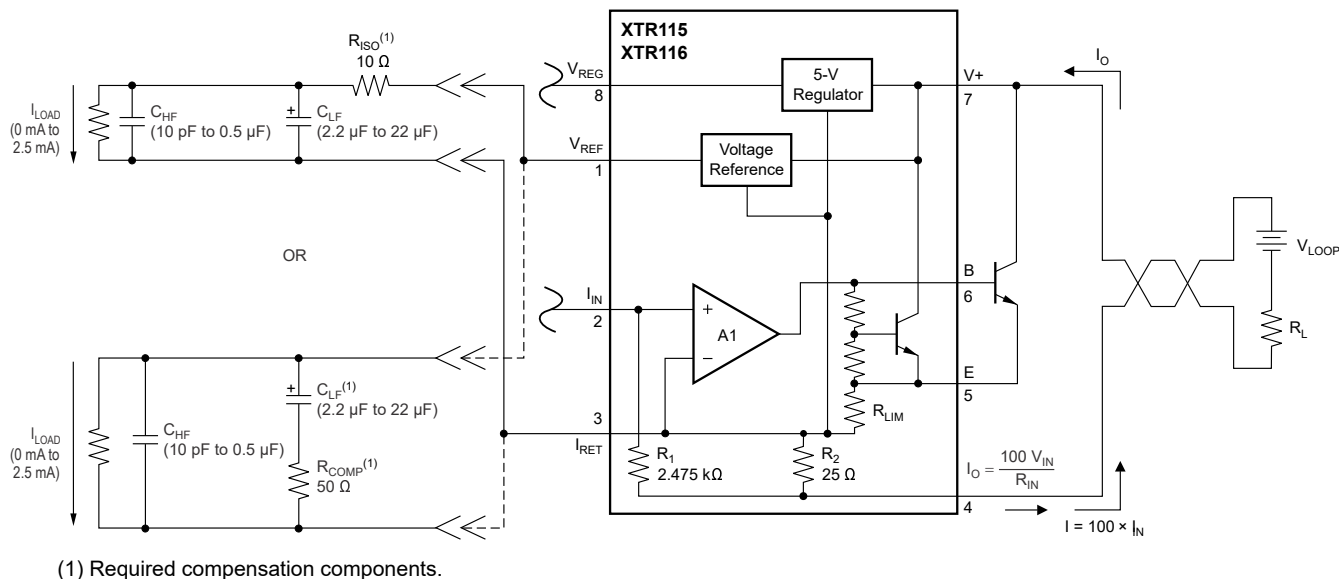

Figure 8-4. Stable Operation With Capacitive Load on V_{REF}
(1) Also see 図 8-4.
(2) See セクション 8.1.1.
Additionally, stability concerns apply to the V_{REF} reference buffer when driving capacitive loads. Figure 8-4 shows that two filtering capacitors are required, one C_{HF} of 10 pF to 0.5 μ F and another C_{LF} of 2.2 μ F to 22 μ F. Either a series isolation resistance R_{ISO} or a snubber R_{COMP} is used, depending on application requirements.